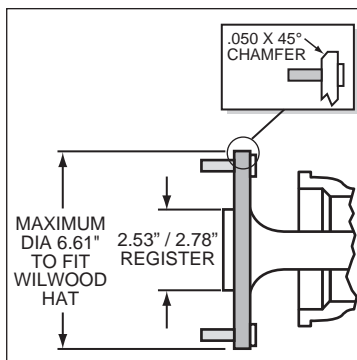

Figure 3. Axle Flange Maximum Dimension
- Axle center register diameter is 2.53" or 2.78", Figure 3. This kit uses Wilwood's removable center register adapters. Rotors can either be centered on the axle register, i.e. *register-centric* or centered on the wheel studs, i.e. *stud-centric*. Due to variations in wheel stud final diameters, *register-centric* centering can be a more accurate method of centering the rotor to the axle. Wilwood offers various diameter adapters for purchase in addition to the ones supplied in this kit, see Table 1.
- Maximum axle flange diameter must be no larger than 6.61" w/.050" x 45° chamfer, Figure 3.